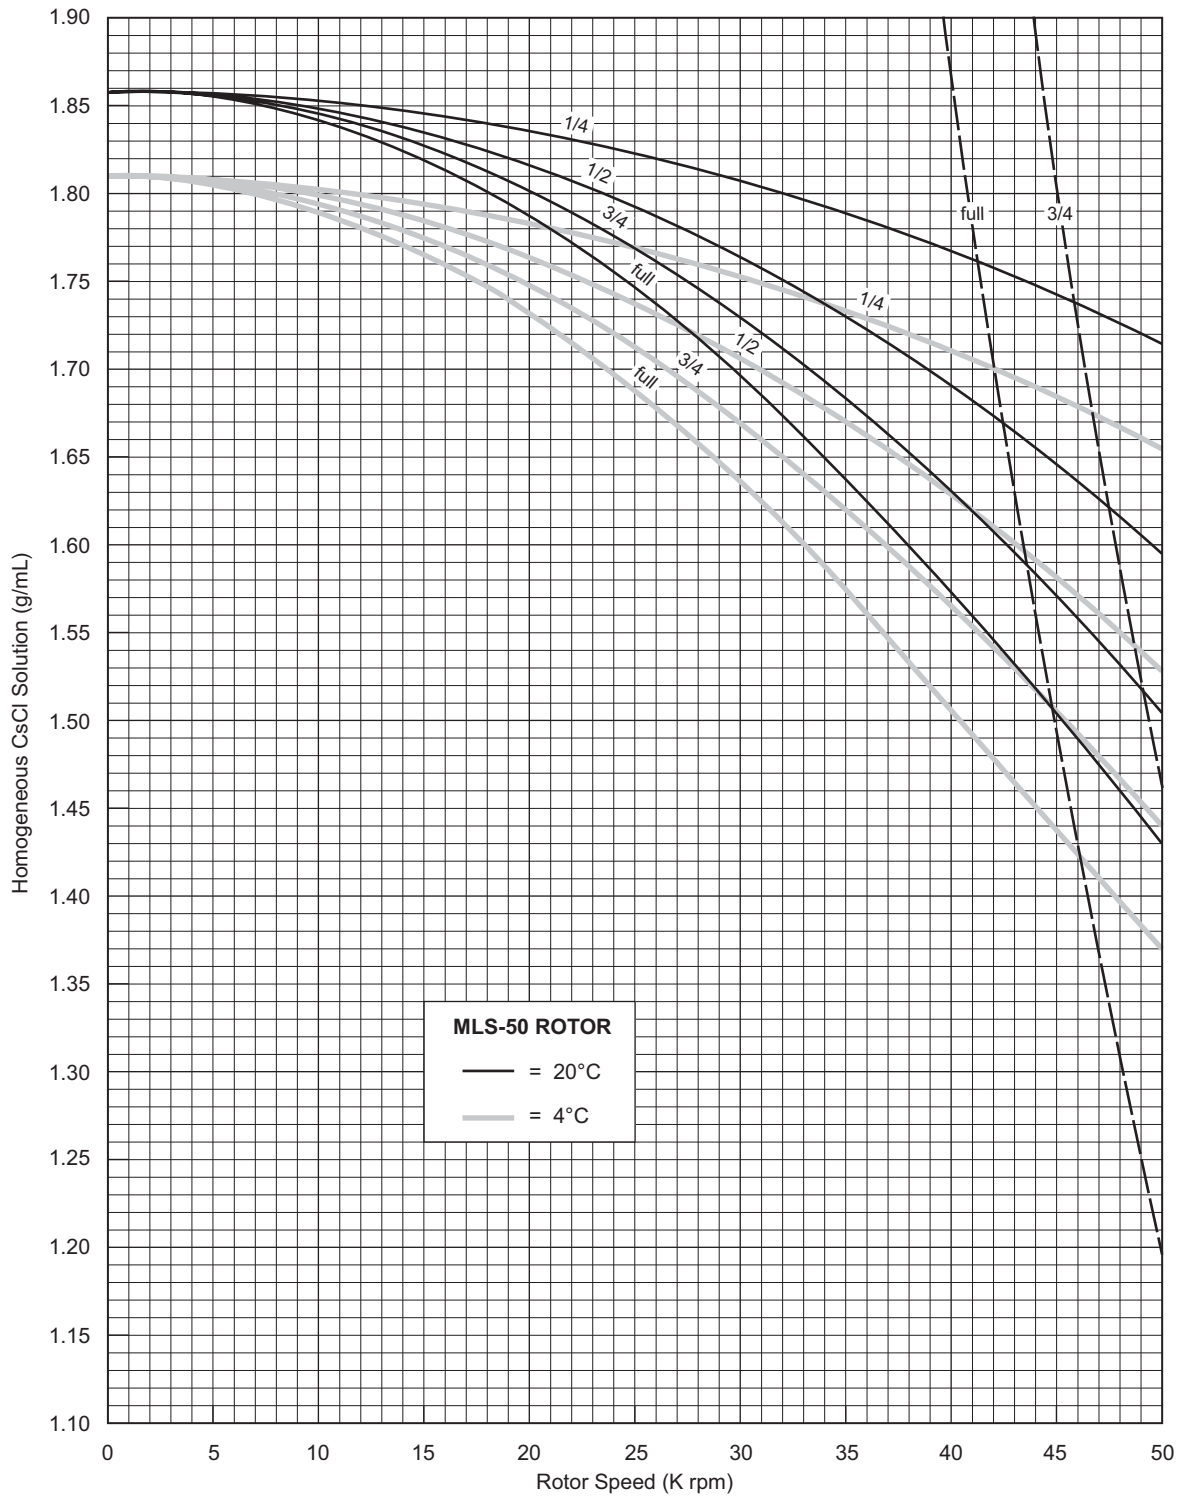

Figure 1. Precipitation Curves for the MLS-50 Rotor.
2. *Further speed limits must be imposed* when CsCl or other self-forming-gradient salts are centrifuged, as equation (6) does not predict concentration limits/speeds that are required to avoid precipitation of salt crystals. Solid CsCl has a density of 4 g/mL, and if precipitated during centrifugation may cause rotor failure. Figures 1 and 2, together with the description and examples below, show how to reduce run speeds when using CsCl gradients.
Rotor speed is used to control the slope of a CsCl density gradient, and must be limited so that CsCl precipitation is avoided. Speed and density combinations that intersect on or below the curves in Figure 1 ensure that CsCl will not precipitate during centrifugation in the MLS-50 rotor. Curves are provided at two temperatures: 20°C (black curves) and 4°C (gray curves). Curves in Figures 1 and 2 are provided up to the maximum rated speed of the rotor.
The curves in Figures 1 and 2 are for solutions of CsCl salt dissolved in distilled water only. If other salts are present in significant concentrations, the overall CsCl concentration may need to be reduced.
Figure 2. CsCl Gradients at Equilibrium for the MLS-50 Rotor. Centrifugation of homogeneous CsCl solutions at the maximum allowable speeds (from Figure 1) results in gradients presented here. (Note that the 50 000-rpm curves are the same for 4 and 20°C.)
The reference curves in Figure 2 show gradient distribution at equilibrium. Each curve in Figure 2 is within the density limits allowed for the MLS-50 rotor: each curve was generated for a single run speed using the maximum allowable homogeneous CsCl densities that avoid precipitation at that speed. (The gradients in Figure 2 can be generated from step or linear gradients, or from homogeneous solutions. But the total amount of CsCl in solution must be equivalent to a homogeneous solution corresponding to the concentrations specified in Figure 1.) Figure 2 can also be used to approximate the banding positions of sample particles. Curves not shown in the figure may be interpolated.
Figures 1 and 2 show that several fill volumes are possible in a tube. If a thinwall tube is partially filled with gradient solution, float mineral oil (or some other low-density, immiscible liquid) on top of the tube contents to fill the tube to its maximum volume. (Do not use an oil overlay in Ultra-Clear tubes.) Note that for a given CsCl density, as the fill level decreases the maximum allowable speed increases. Partial filling may be desirable when there is little sample or when you wish to shorten the run time.
For example, a *half-filled* tube of 1.62-g/mL homogeneous CsCl solution at 4°C may be centrifuged at 41 000 rpm (see Figure 1). The same solution in a *three-quarter-filled* tube may be centrifuged no faster than 35 000 rpm. A tube *full* of the 1.62-g/mL CsCl solution may be centrifuged no faster than 31 000 rpm (curves not shown in the figure may be interpolated).
1. In Figure 1, find the curve that corresponds to the desired run temperature (20°C) and fill volume (full). The maximum allowable rotor speed is determined from the point where this curve intersects the homogeneous CsCl density (36 000 rpm).
4. From Figure 1, select the maximum homogeneous CsCl density that corresponds to the temperature and run speed established above. These parameters will provide the particle-banding pattern selected in Step 2.